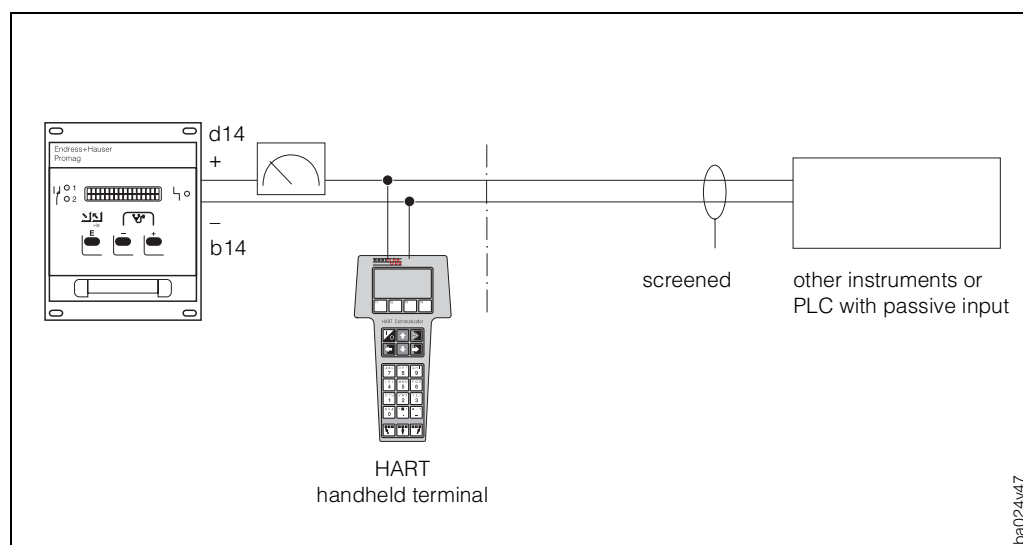

Fig. 41
- Connection via the analogue 4...20 mA cable of current output (see Fig. 41).